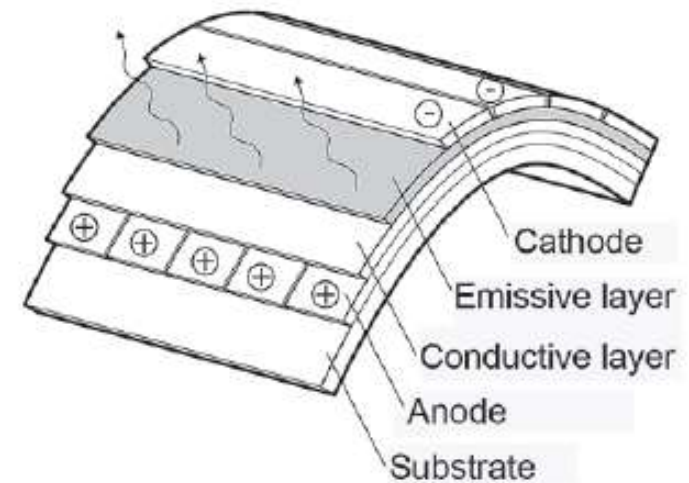

Fig. 15.24 OLED structure. (Drawn by Siobhan Rockcastle, © University of Oregon, Baker Lighting Lab.)
- As a flexible emissive surface (Fig.15.24), OLED sources offer unique application potential.